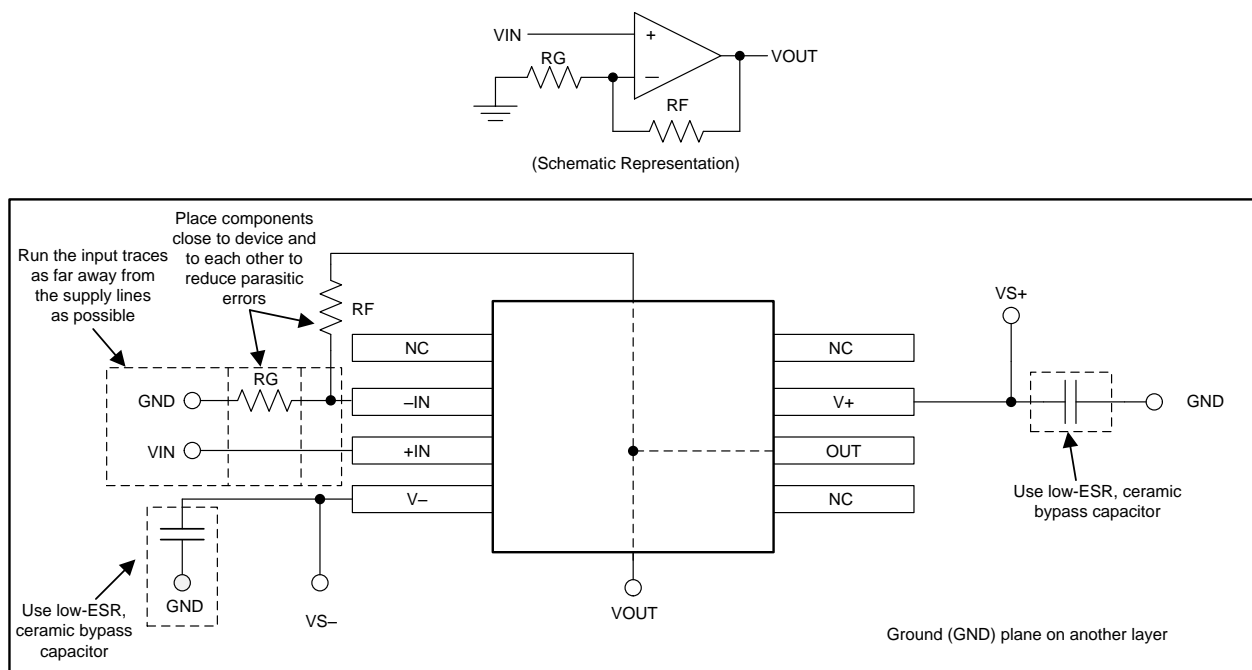

Figure 57. Operational Amplifier Board Layout for Noninverting Configuration
- Place the external components as close to the device as possible. As shown in Figure 57, keeping RF and RG close to the inverting input minimizes parasitic capacitance.